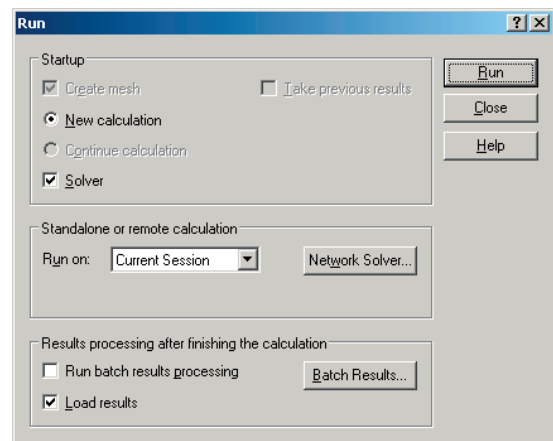

Fig. 16
- Step 2. Click **Run** in the Run dialog box, **Fig. 16**.